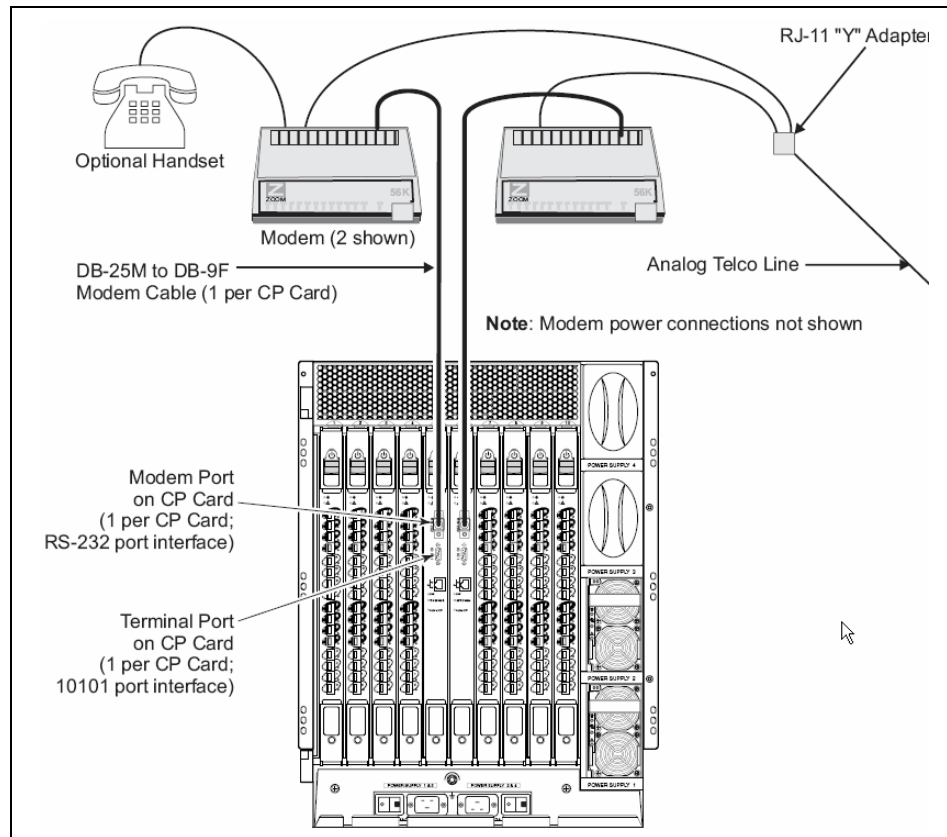

Figure 6-3 Optional modem line and data connections
Connection: If a modem connection is set up, connect a modem to each CP blade, as shown in Figure 6-3.
10. Remove the Telco connector from the active CP blade modem, leaving the Telco line from the standby CP blade connected to the “Y” connector. See Figure 6-3 on page 148.